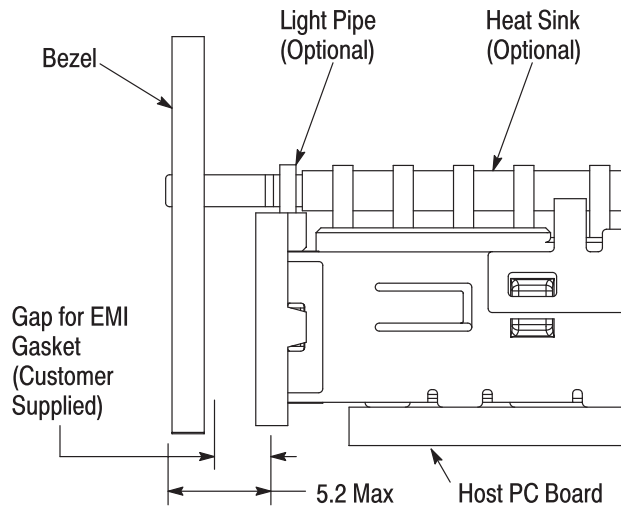

Figure 8
9. Mount the cage assembly (with the host pc board) onto the bezel. Make sure that the opening of the cage assembly is centered behind the cutout of the bezel and that the light pipe, if one is used, fits through the hole in the bezel. The front flange should rest flat against the EMI gasket all around perimeter of the cage opening. See Figure 8.
To avoid interference with the insertion and extraction of the transceiver, IT IS IMPORTANT that the bezel and pc board be positioned in relation to each other according to Figure 8.